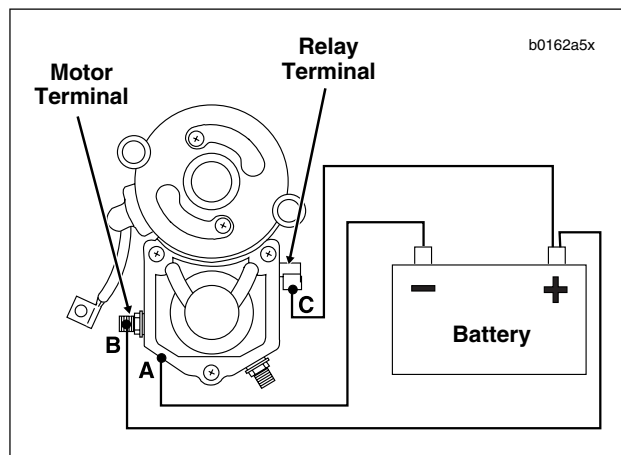

Figure 1-6. Test 2: Hold-In Test
1. See Figure 1-6. With test leads still connected in the manner specified in the previous SOLENOID PULL-IN TEST, disconnect solenoid motor terminal/battery negative test lead (B) at negative battery post only; reconnect loose end of this test lead to positive battery post instead.